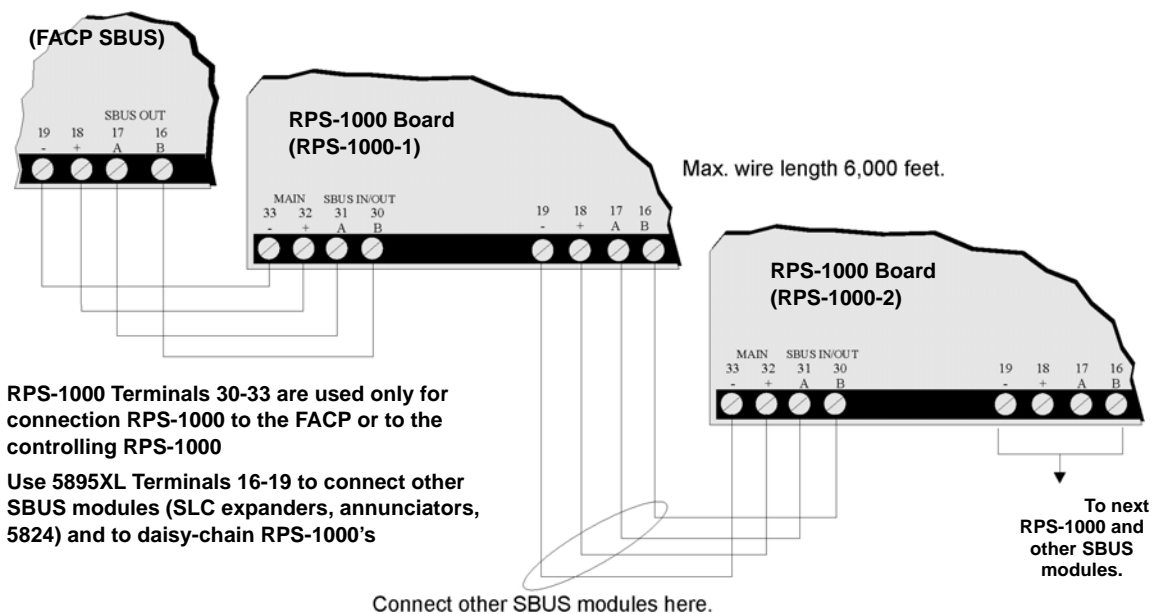
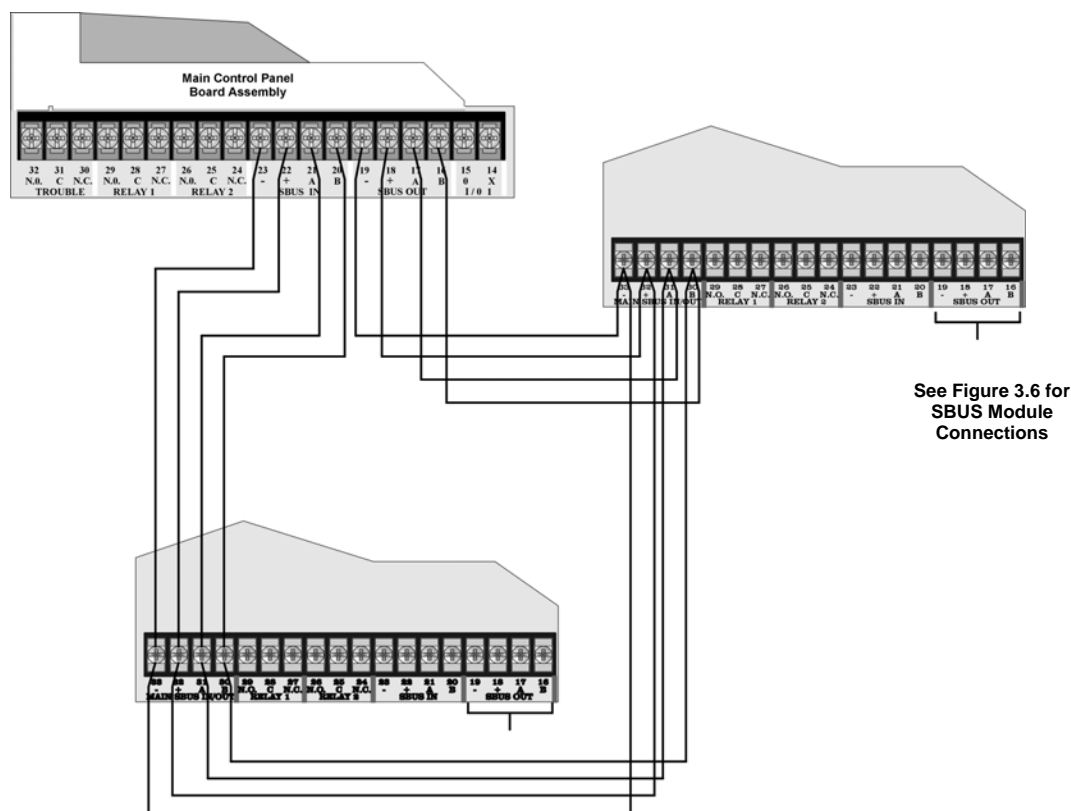

Figure 3.3 Class B RPS-1000 Connection to FACP
Figure 3.4 Class A RPS-1000 Connection to FACP
1. Connect the RPS-1000 to the appropriate SBUS. The RPS-1000 can be connected directly to the FACP or can be daisy-chained to another RPS-1000. Figure 3.3 and Figure 3.4 show both connections.